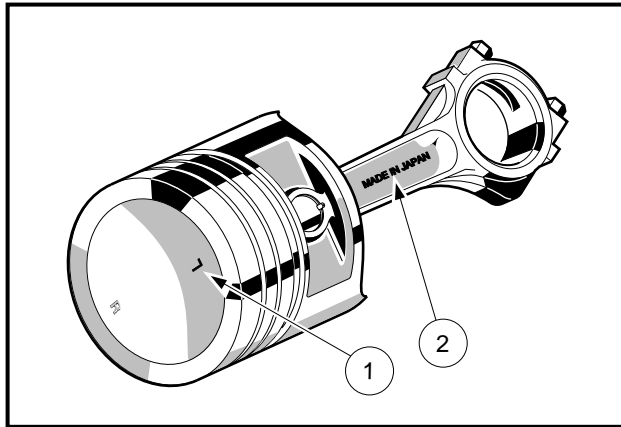

Figure 13-96 Piston Head and Connecting Rod Alignment
2. Reassemble the piston and the connecting rod into a unit, if disassembled. Align the L mark (1) on the piston head toward the lettering MADE IN JAPAN (2) on the connecting rod (**Figure 13-96, Page 13-44**).